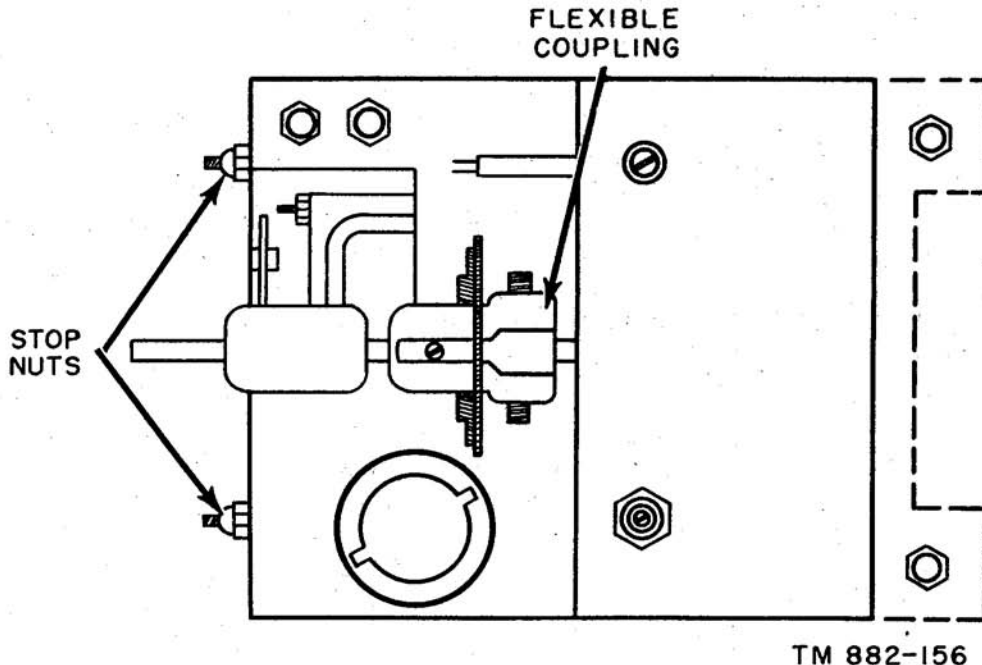

Figure 114. Bfo Subchassis removal.
e. Removal of Bfo Subchassis (fig. 114).
- (1) Remove the tube shield and tube from the bfo subchassis.
- (2) Unsolder the five wires that are attached to the subchassis. Tag each wire as it is removed.
- (3) Loosen the two slotted-head setscrews on the flexible coupling that is nearer the oscillator shield.
- (4) Pull the B. F. OSCILLATOR control knob away from the front panel so that the flexible coupling is clear of the shaft.
- (5) Remove the two stop nuts that hold the subchassis to the front of the main chassis.
- (6) Remove the two screws that hold the rear of the subchassis to the main chassis.
- (7) Remove the subchassis by pulling it up and tilting it so that the rear flange clears the wiring on the main chassis.